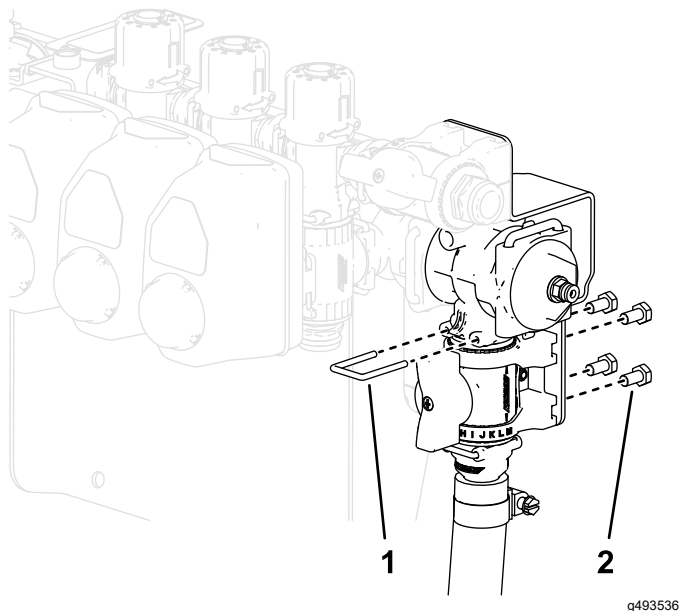

Figure 32
14. Connect the control valve assembly with the straight fitting to the bottom of the T-manifold using the included retainer (Figure 32).
15. Install the control valve assembly onto the bottom of the control valve bracket using 4 bolts (M6) as shown in Figure 32.